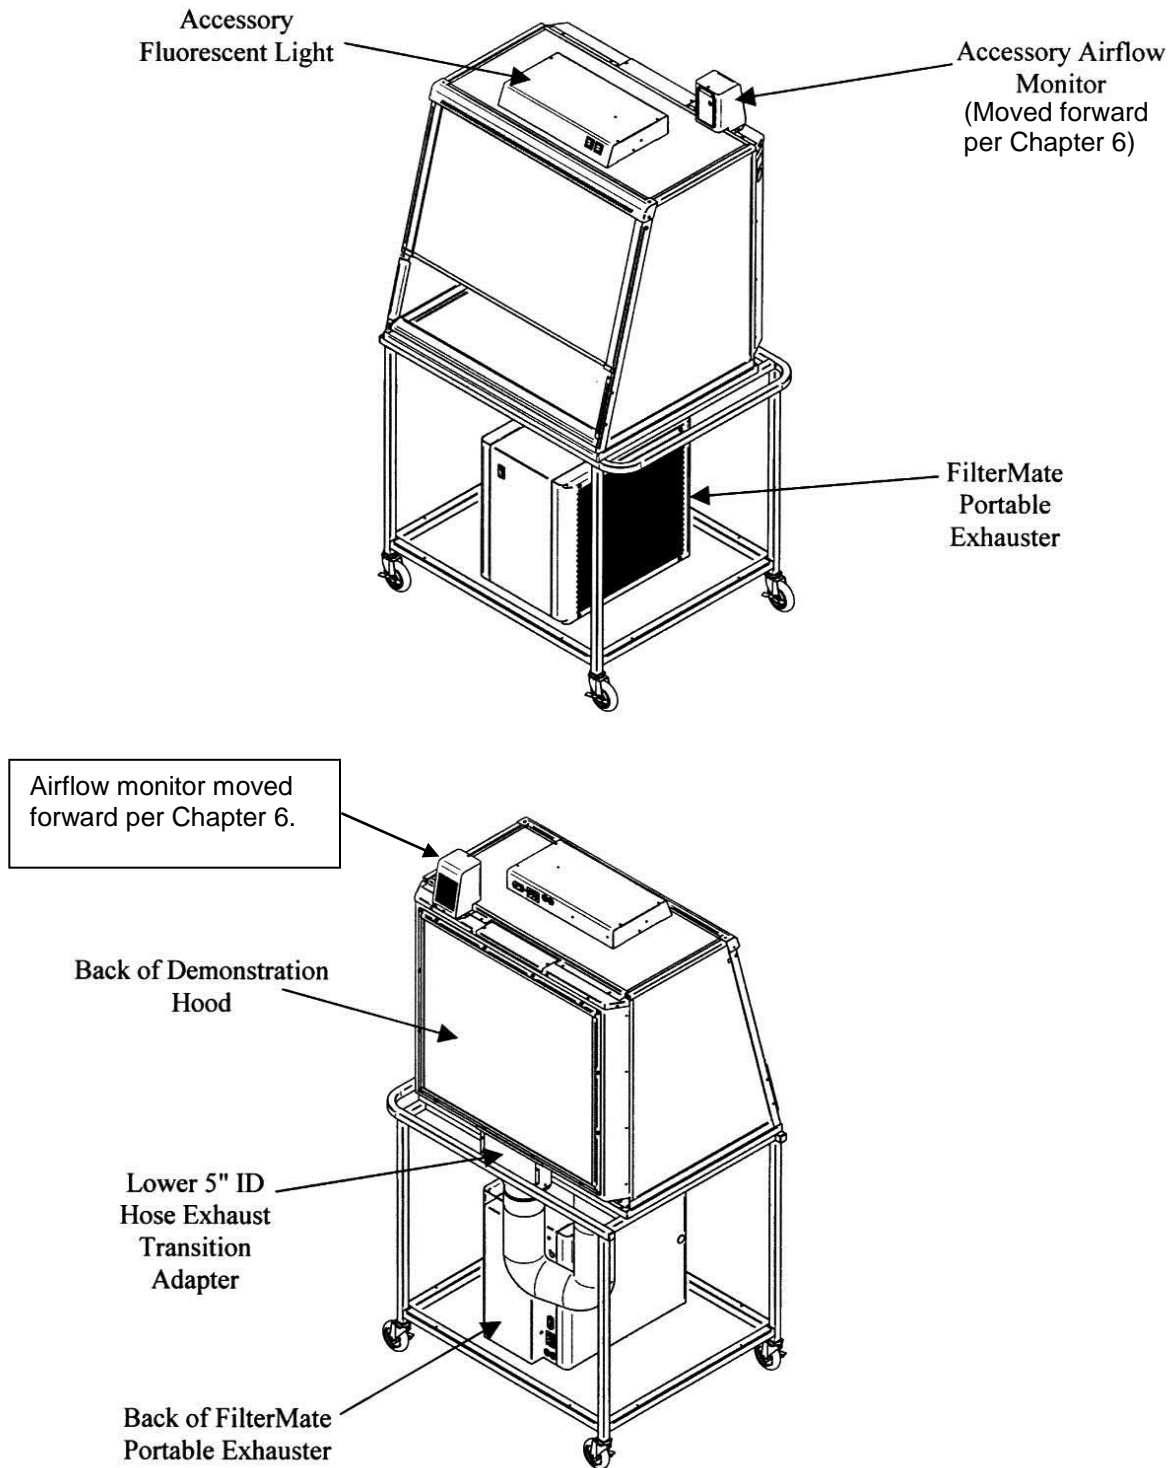

Figure 3-6
17. **Mobile Demonstration Hood** includes FilterMate Portable Exhauster, Demonstration Hood, work surface and mobile cart to allow easy transport throughout the facility. See Figure 3-6. Mobile cart can be ordered separately as shown in Chapter 7.